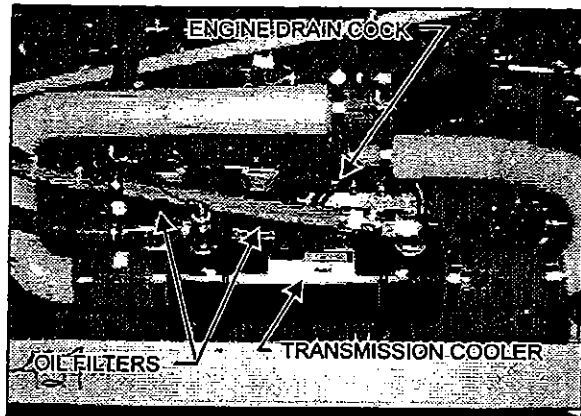

Figure 11: Engine Drain Cock 05031
8. Open engine drain cock (Fig. 11).